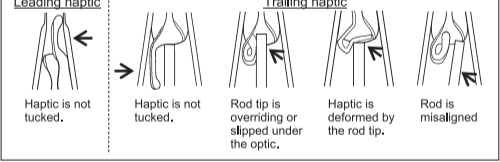

Fig.11: Step 5 - Do not proceed in case of wrong position
**DO NOT proceed if the leading and / or trailing haptics are not in correct position, or the rod tip does not push the edge of the optic in the center (Fig.11).**